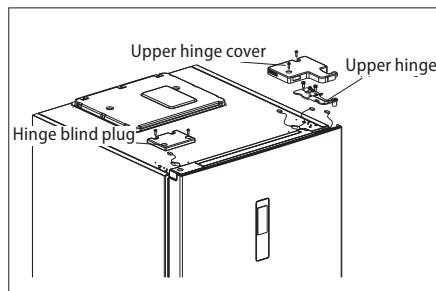

Fig. 1
- Remove the upper plastic covers, the upper hinge of the refrigerator (Fig. 1) and disconnect the connector located at the upper hinge of the refrigerator (Fig. 1). Remove the refrigerator door and place it in a safe place.